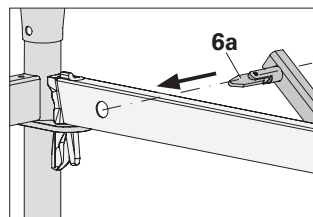

Fig. A1.04a
- Insert gravity pin (6a) through the hole of the top horizontal ledger, and then turn sideways. (Fig. A1.04a + A1.04b)